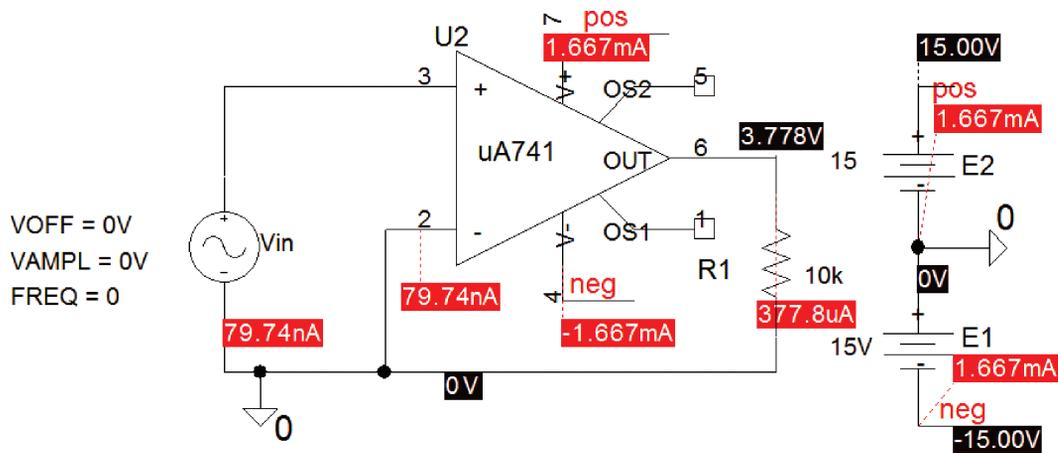

FIGURE 8.28: Open-loop measurements
- (1) Fig. 8.28 shows a schematic for obtaining the ua741 offset characteristics: The input offset voltage is the input voltage required to bring the output voltage to zero with zero signal voltage applied. The maximum, or short-circuit current output is obtained using a small output resistance ($1\ \mu\Omega$), and plotting the output current.